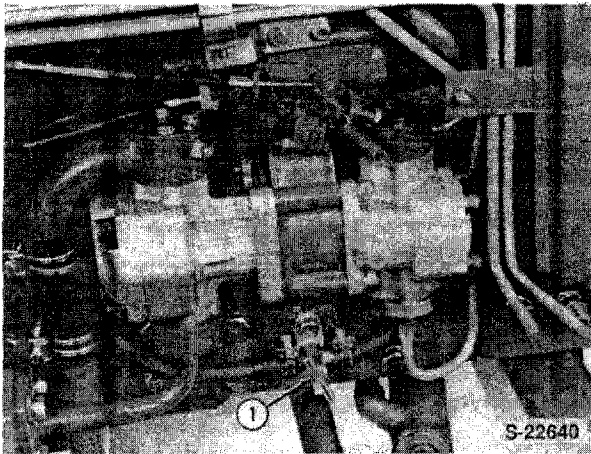

Figure 6
1. Drain the radiator and block coolant and collect in a clean container, Figure 6.